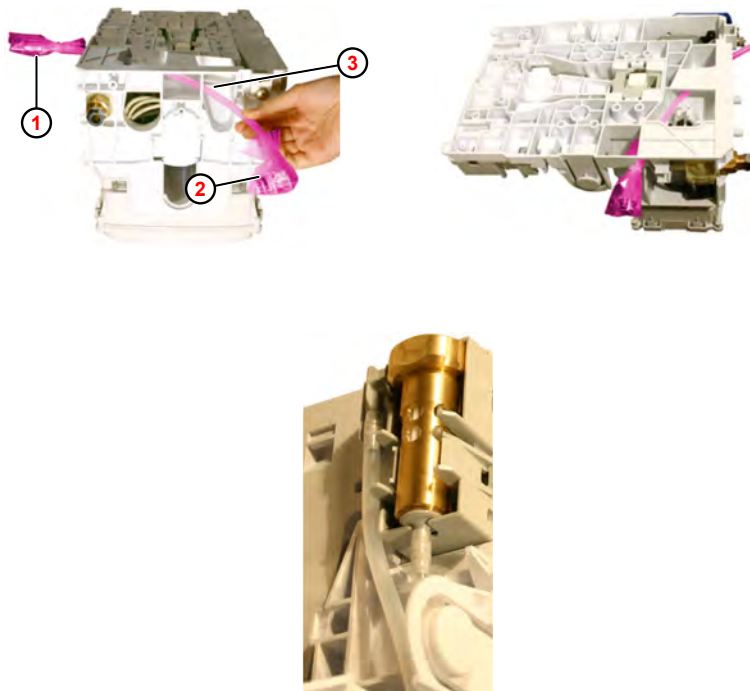

Fig. 20: Installation of water line
1. ➤ Guide the water hose (Fig. 20 , ①) upwards from below and through the opening ③ in the back wall of the housing.
4. ➤ Remove the protective packaging from both connection nipples ② .